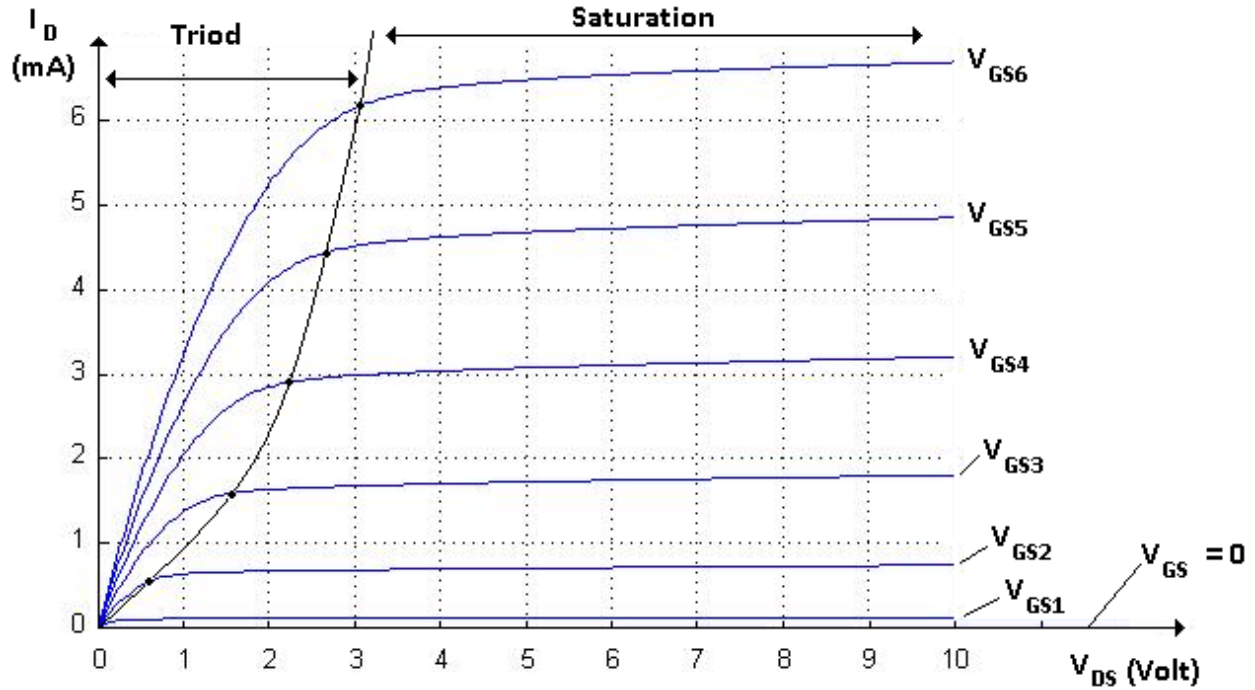

Figure 3. Typical characteristic graph of a N-MOSFET
Depending on the voltages at gate, drain, source, and substrate, the device can be in different modes of operation. Figure 3 shows a typical characteristic graph for a N-MOSFET.
With the n -channel enhancement MOSFET device provided, and with the assistance of a teaching assistant or lab staff, use the semiconductor parameter analyzer to obtain a plot of the three-terminal characteristics of the MOSFET, namely a plot of the *drain-to-source current* I_{DS} , as a function of the *drain-to-source voltage* V_{DS} , for different *gate-to-source voltages* V_{GS} . A typical characteristic graph is illustrated in figure 3.
- a. Draw the I_D versus V_{DS} for all V_{GS} values in one figure and include it in your report using Excel. Make sure to label the axes on your plot and to indicate the value of V_{GS} for each curve, as done in figure 3.